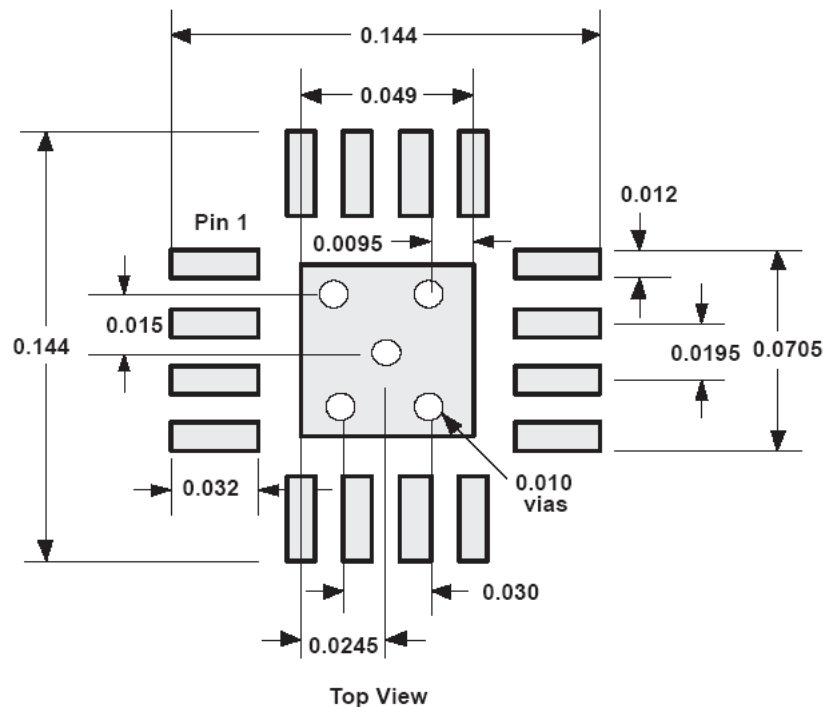

Figure 9.11: QFN Etch and Via Pattern.
9. The THS4509 recommended PCB footprint is shown in Figure 9.11.